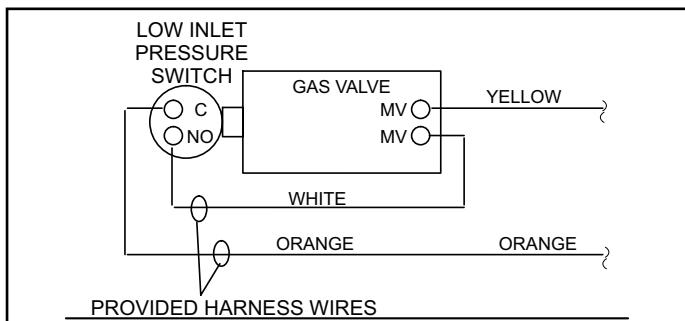

Figure 7. Low Inlet Pressure Switch Wiring
11. Thread pressure switch to brass fitting 2 to 3 turns past hand tight, then wire as shown in Figure 7.